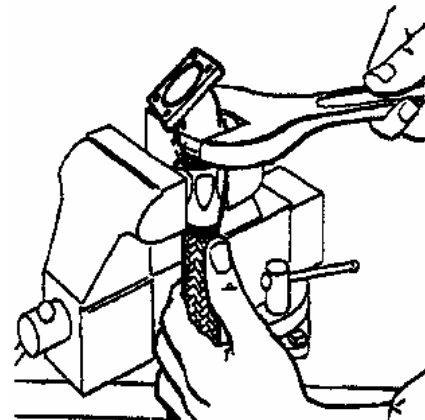

Figure 9. Medium-Pressure Lightweight
m. Turn nipple clockwise with wrench on nipple hex while holding hose in place with other hand (Figure 9).
(1) For Stratoflex fittings, the maximum allowable gap between nipple hex and socket is between .015 and .060 inch.
(2) For Aeroquip and Deutsch fittings, the maximum allowable gap between nipple hex and socket hex is .041 inch for sizes -3, -4, -5 and .031 inch for sizes -6 and up.
n. Turn elbow clockwise with wrench on elbow hex while holding hose in place with one hand. (Figure 9)
(1) For Stratoflex fittings, the maximum allowable gap between nipple hex and socket is .060 inch.
(2) For Aeroquip and Deutsch fittings, tighten nipple until hex is snug against socket.